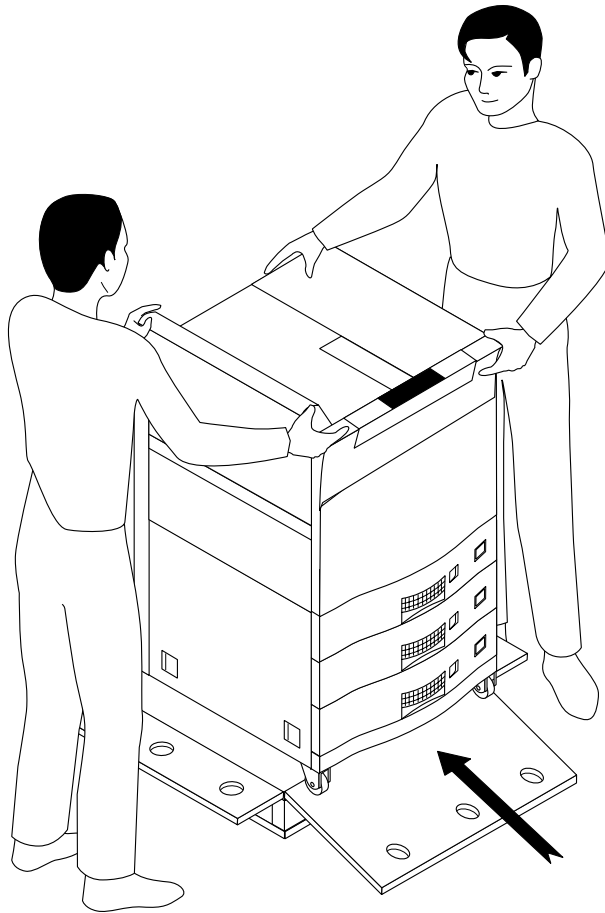

Figure A-15 Loading the Printer On the Pallet
4. Load the printer by pushing it up the slope edge of the pallet ramp, as shown in Figure A-15.